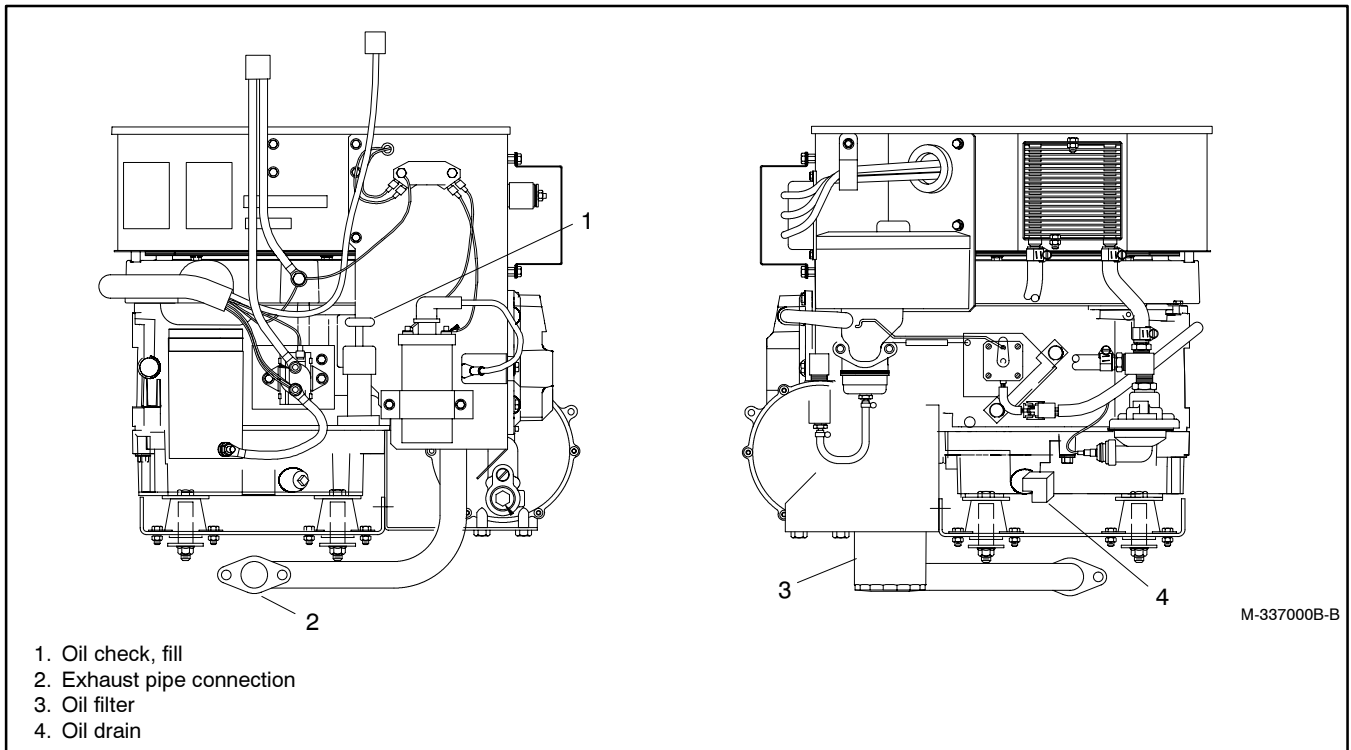

Figure 3-4 Lubrication System
See the service schedule in Section 3.2 for oil change and oil filter replacement intervals. See Figure 3-4 for the oil drain, oil check, oil fill, and oil filter locations. The list of routine service parts in the Introduction of this manual shows the oil filter part number.
The generator set is shipped with oil. Before operating a new generator set check the engine oil in the crankcase. See Figure 3-4. Verify that the oil level is at the F mark on the dipstick. See Section 3.4.2 for engine oil recommendations.
1. Follow the instructions in Section 3.3 to access the generator set oil drain plug, filter, and fill tube. See Figure 3-4.